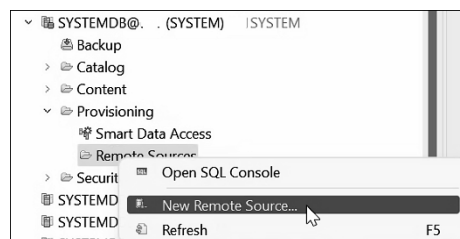

Figure 3.17 SAP MII Integration with SAP HANA Studio
4. Open SAP HANA Studio and expand the **HANA** system node. To create a remote source system, follow menu path **Provisioning • Remote Sources**, then right click and select **New Remote Source**, as shown in Figure 3.17. Enter the values for the required fields, such as **Source Name** (you can provide any name), **Adapter Name** (select **MII\_SDI\_Adapter**), **Source Location** (select the source agent by which the adapter is deployed), **Server Name** (enter the SAP MII server name), **Port** (provide the SAP MII system port), **SSL Mode** (choose **Enabled** or **Disabled**), **String Column Length** (specify the column length of all the string columns), **User Name**, and **Password** (provide the user name and password for connecting to the SAP MII system).